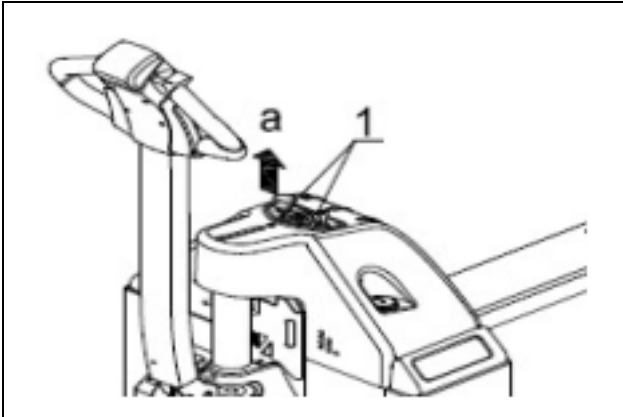

Figure 3-2 Cover Removal
- a. Remove two screws (1, Figure 3-2) and remove the upper compartment cover.